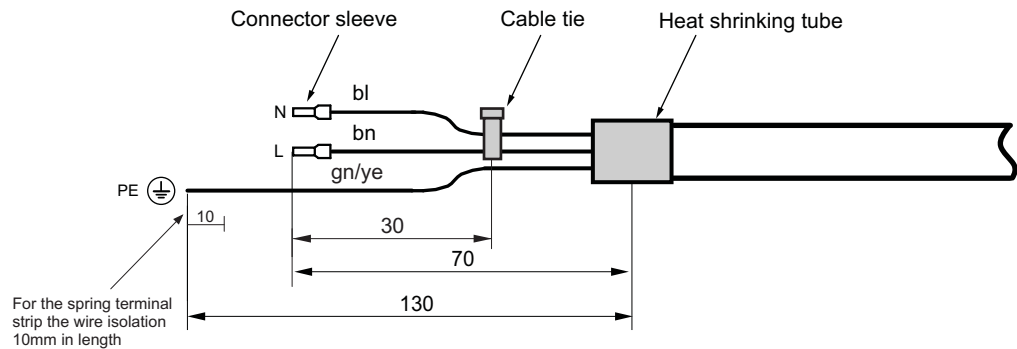

Figure 4.4: Diagram of the assembled mains cable (Dimensions without mm specification.)
- When assembling the connecting cable, keep to the dimensions given in FIGURE 4.4. Pay particular attention to making sure that the protective conductor (green-yellow wire) is always longer than the other wires.